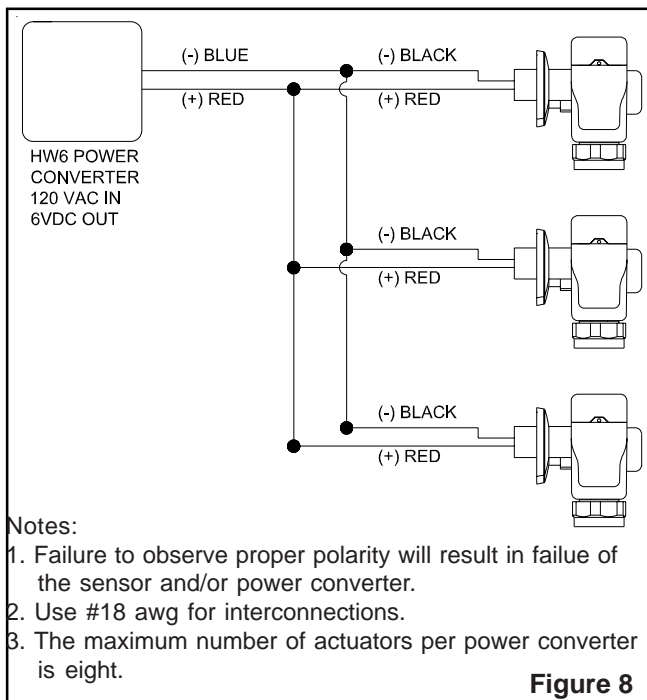

Figure 8
9.) Wiring installation (see fig. 8)